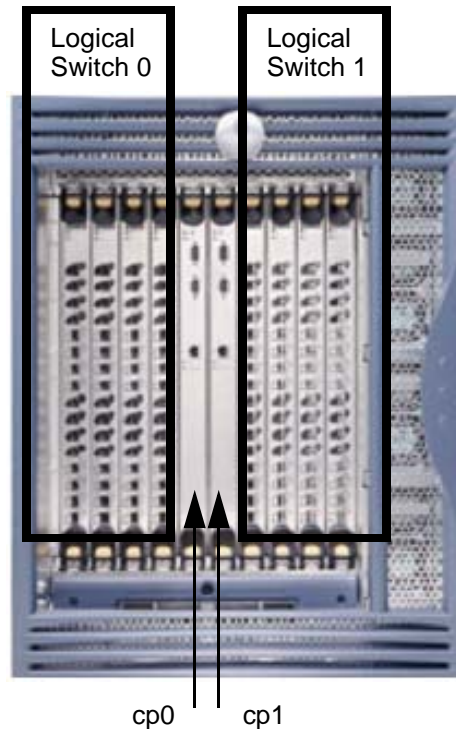

Figure 2-2 SilkWorm 12000 Dual-Switch Model
The SilkWorm 12000 houses two separate logical switches within a single chassis. Each switch is capable of scaling to 64 ports by adding up to four 16-port cards to the respective logical switch. It is possible to interconnect the two switches inside a chassis to form a fabric. Each logical switch has its own unique domain ID, WWN, and IP address. Each switch in the chassis is an entity accessible through telnet and other methods, using the unique IP address of that switch. The switches are numbered zero and one, as shown in Figure 2-2. You can also access a switch using a serial connection for installation, such as for setting the IP address of the switch or for diagnostic purposes.
The dual control processors (CP) operate in an active/standby model. The CP cards are named “cp0” (the CP card on the left, when looking at the chassis) and “cp1” (the CP card on the right when looking at the chassis), as shown in Figure 2-2. Each CP card is assigned an IP address for maintenance and diagnostic purposes. Cp0 is located in slot 5 and cp1 is located in slot 6. One CP card is active and manages both switches. The other CP card is in standby mode and will become active when a failover is required or a forced failover occurs. Both CP cards should run the same version of Fabric OS. When configured for a single switch, meaning only one switch is populated with 16-port cards, it is still necessary to have two CP cards to maintain availability should one CP card fail. Normally, cp0 is given preference to become the active CP card and cp1 operates as the standby CP card. In the initial release of Fabric OS v4.0, when a failover occurs, it takes approximately thirty seconds before the standby CP card becomes active. The use of a dual fabric solution can mitigate or eliminate the impact of this failover period. During the failover period, I/O is not possible and attached devices must log back into the fabric and re-authenticate. In properly designed high availability SANs, the real effect on I/O can be limited to as little as four seconds. The next release of Fabric OS v4.1 is planned to support completely non-disruptive updates to minimize path interruption.